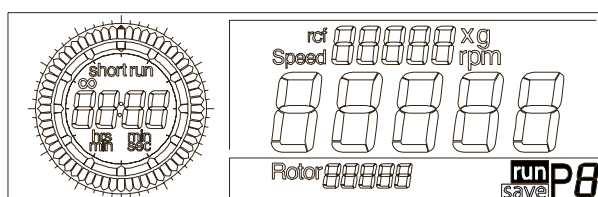

Fig. 5.16: Calling up stored programs;
- Turn the left rotary knob until the “run” cursor appears on the display (Fig 5.16).